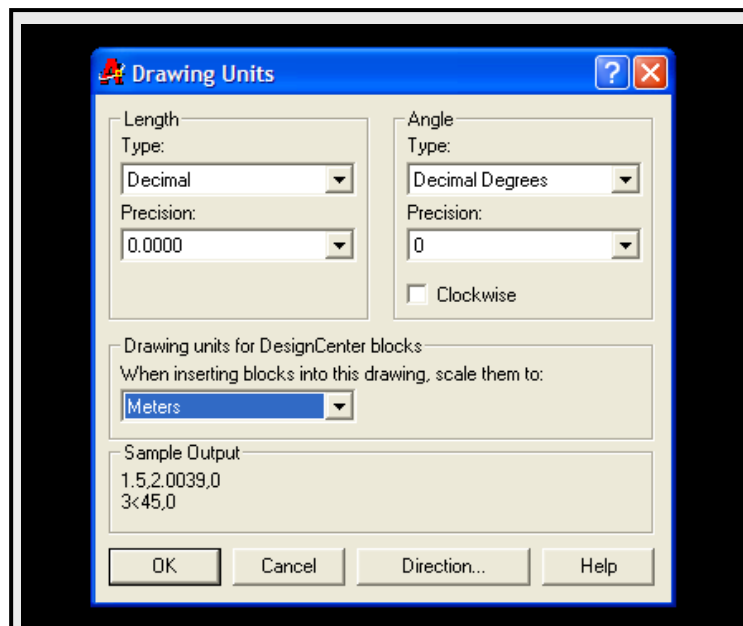

Fig.3: Drawing Units Window – Drawing units should be set to metres
- In the *Drawing Units* dialog box that opens, choose metres as the *Insertion Scale* and click OK (Fig.3).